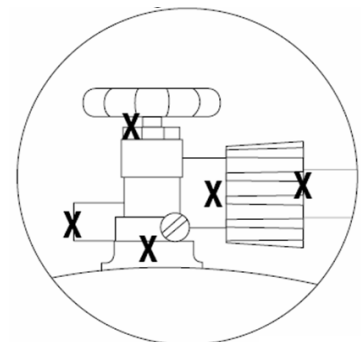

Fig. 5
4. Brush soapy solution at all "X" locations (see Fig.5).